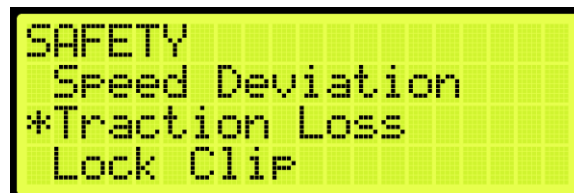

Figure 510: SAFETY Menu – Traction Loss
2. From the SAFETY menu, scroll and select Traction Loss (See Figure 510).